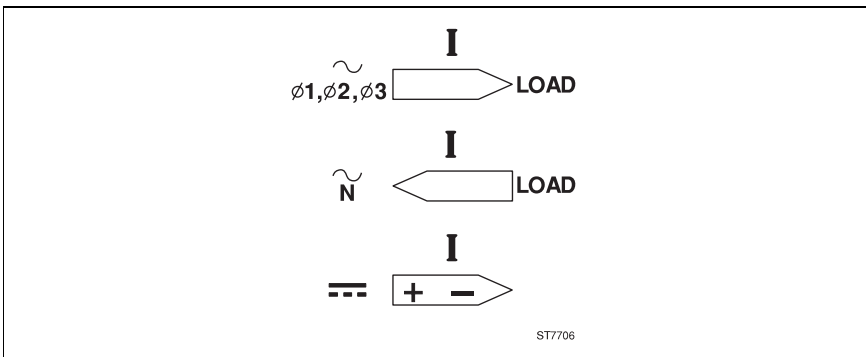

Figure 3. Orientation of the Current Probe
5. Clamp the Current Probe around the conductor; be sure that the arrow marked on the jaw of the Current Probe points toward the correct orientation. (see Figure 3.)